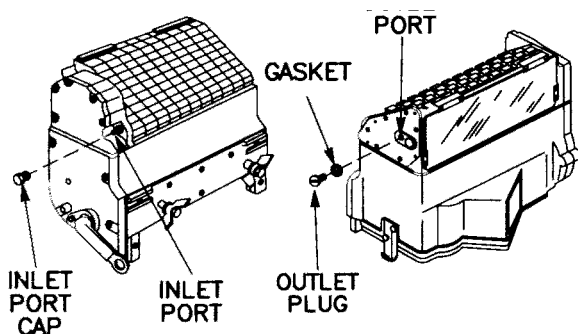

Figure 3-23 M36 Head Assembly
f. Periscope, M36 Tank (figs. 3-23 through 3-26).
(1) Head Assembly (fig. 3-23).
g. Periscope, M36E1 Tank (figs. 3-23 through 3-26). Refer to para 3-10.f. for procedures.